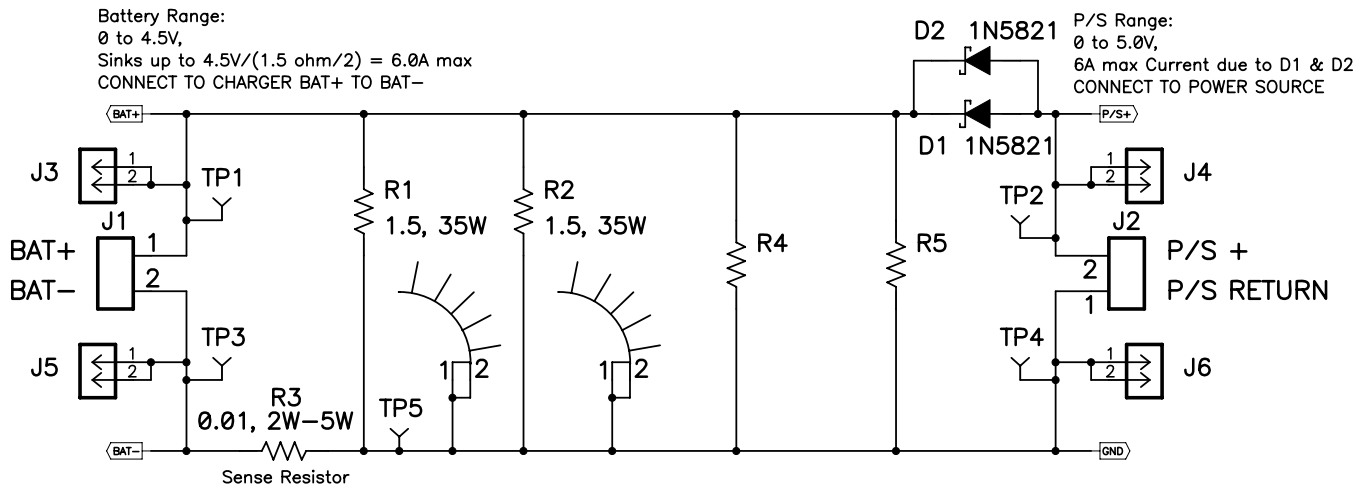

Figure 2. BAT Load (PR1010) Schematic
2. If battery as the load, then a second power supply (PS#2), capable of supplying up to 5 V at 5 A, as shown in Figure 2.
Testing with an actual battery is the best way to verify operation in the system. If a battery is unavailable, then sourcemeter like a Keithley 2420, capable of both sourcing and sinking current, or a circuit similar to the one shown in Figure 2 can simulate a battery when connected to PS#2.
3. Connect a voltage meter (VM#1) across J3 or TP2 (IN) and J7 (GND)
4. If BAT\_Load (PR1010), as shown in Figure 2, is used, connect the PR1010 BAT+ terminal of PR1010 in series with a current meter (CM#1) to OUT of J8 or J6. Connect PR1010 BAT – to GND of J8 or J9. Connect the P/S+ and P/S return side of PR1010 to PS#2, set the voltage to 3.1 V  $\pm$ 50 mV then disable PS#2.